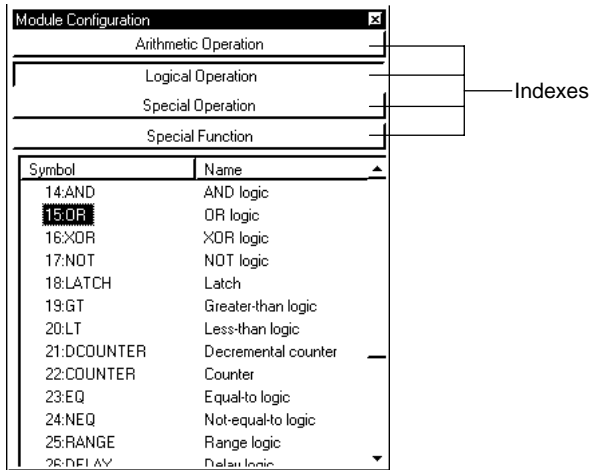

Figure 4.3.5 [Module Configuration] Dialog Box
- ≠ In the [Output Block] dialog box, double-click a blank box. The [Module Configuration] dialog box (Figure 4.3.5) appears. For ease of selection, modules are classified into four types; arithmetic operation, logical operation, special operation and special function.